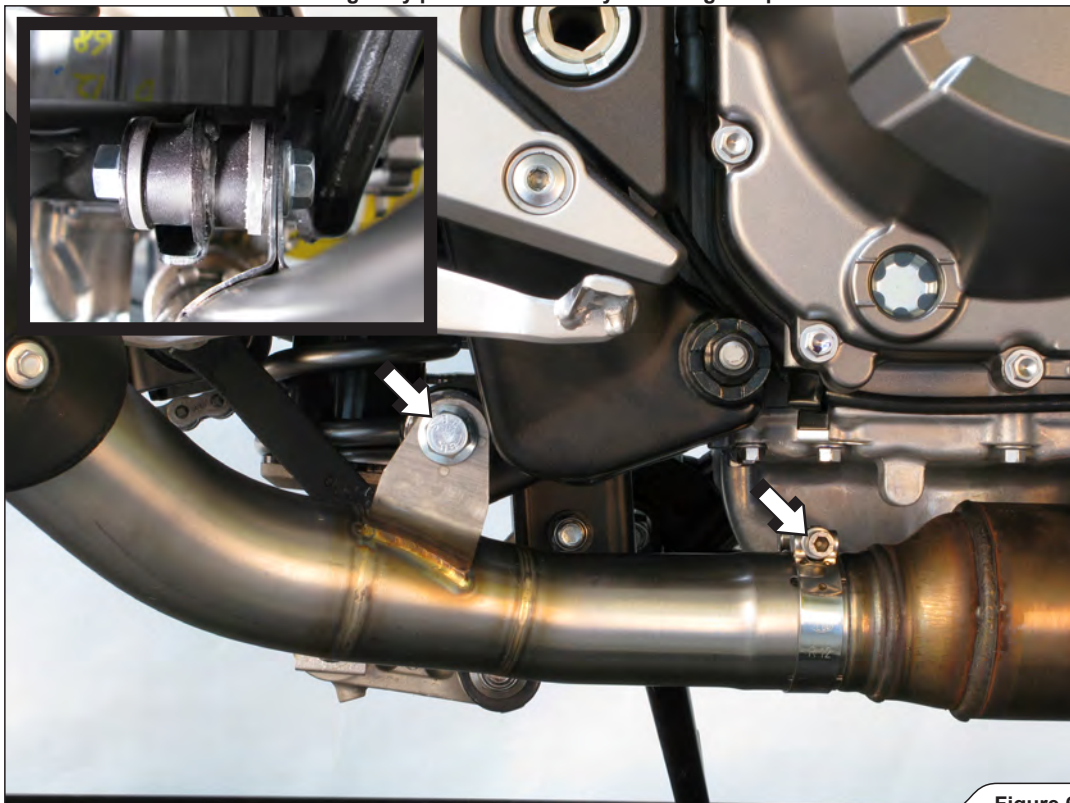

Figure 6
3. Carefully slide the muffler onto the outlet side of the stock collector. Hand tighten the link pipe's bracket (using bolt and nut from Akrapovič installation kit) and clamp (**Figure 6**).